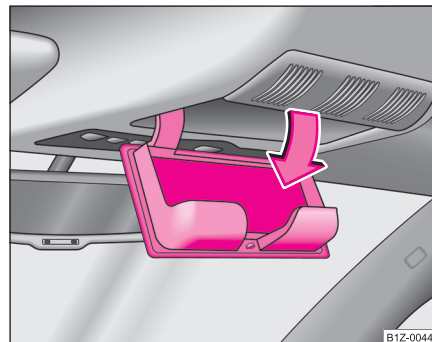

Fig. 72 Detail of the
- Press on the lid of the stowage compartment, the stowage compartment opens downwards ⇒ fig. 72.